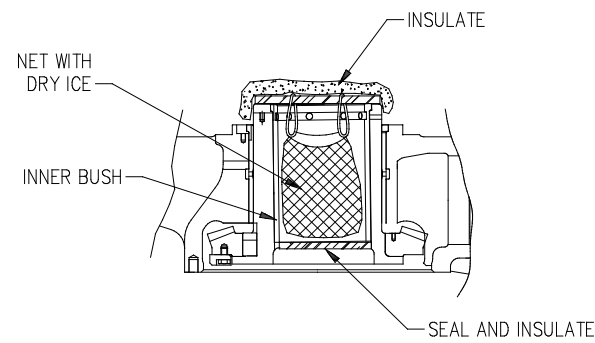

Fig. 6.7.2
7. Place lumps of dry ice in a net and insert the net into the inner bush. Hang it from above. Insulate the top and bottom of the bush with wood and rags. (Fig. 6.7.2).